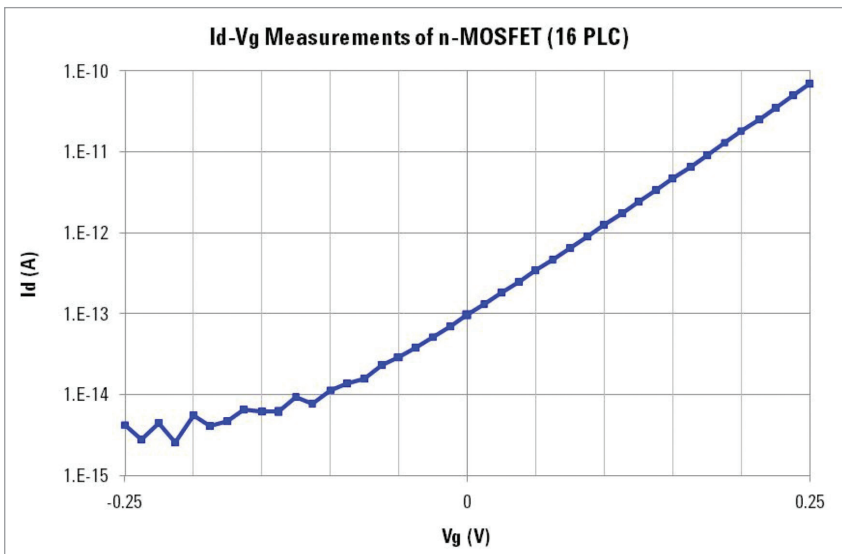

Figure 1. I_d - V_g Measurements with the 4080 ULCM
Figure 1 shows an example of the I_d - V_g measurement of an N-channel MOSFET on a wafer. The HRSMU is connected to the drain terminal of the MOSFET and another SMU is connected to the gate terminal. Source and substrate terminals are connected to the GNDU. Drain voltage is set to a constant 2 V, gate voltage is swept from -250 mV to 250 mV in 12.5 mV steps, and drain current is measured for each step in the 10 pA range. The integration times are 16 power line cycles (PLC). This example shows that the fA level low current is measured in a stable manner.
The HRSMU enables the low-current measurements as shown in Figure 1. Note that the high-resolution pin board and ultra low leakage probe card, which are discussed in the following sections, contribute to this low-current measurement capability.
The 4080 ULCM uses high-resolution (HR) pin boards, which consist of new relays configured to minimize drift of thermo-electromotive force for the matrix switches. This allows the 4080 ULCM to achieve better low-current and low-voltage measurements than the 4080 SLCM. The low-current measurement capability is shown in Figure 1.